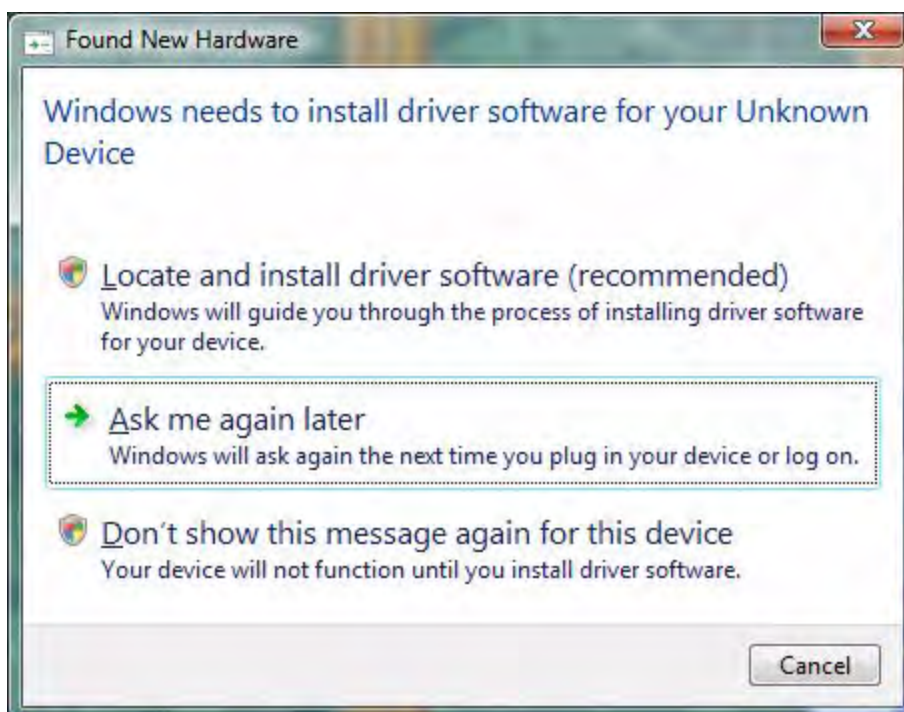

Figure 32. Found New Hardware Dialog, Windows Vista
2. After the PC detects the new hardware, it will display the Found New Hardware Wizard dialog box, shown in Figure 32. Click **Locate and install driver software (recommended)**.